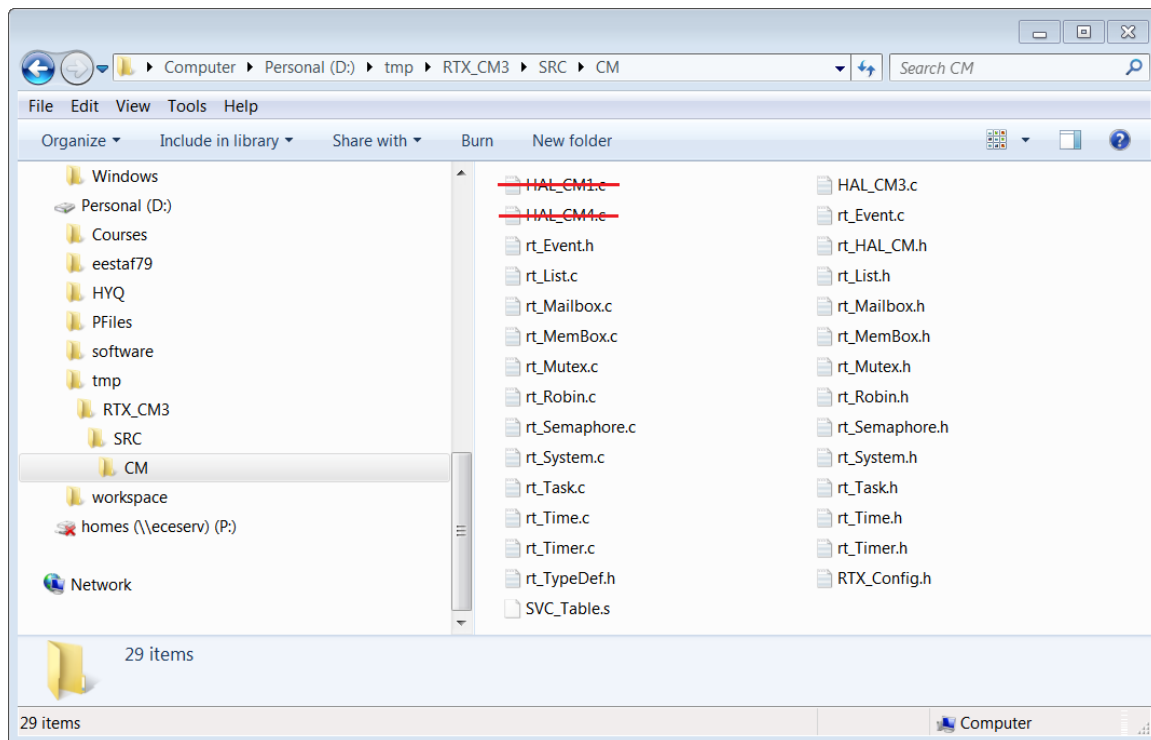

Figure 1.16: RTX Library Source Files for Cortex-M3
3. Start working on your own copy of the RTX library from now on. Remove `HAL_CM1.c` and `HAL_CM4.c` files that are under `RTX_CM3\SRC\CM` directory (see figure 1.16). These two files are for Cortex-M1 and Cortex-M4 processors which is not the hardware in the lab.